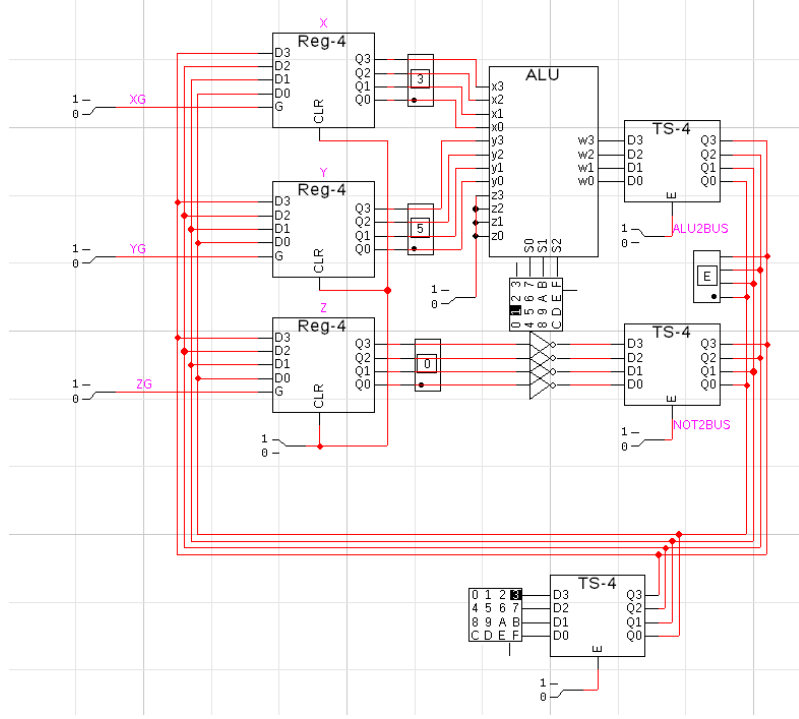

Figure 3: Internal circuit of the datapath
4. Figure 3 shows the internal circuitry of the datapath.